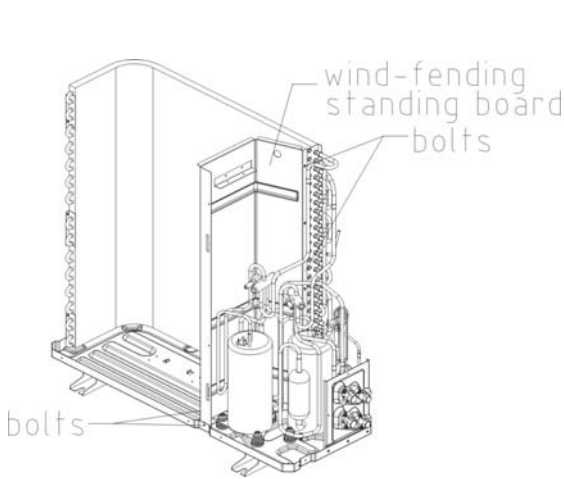

figure10
14. As in figure 10. dismantle the four bolts on the fixed partition plate. and take down partition plate